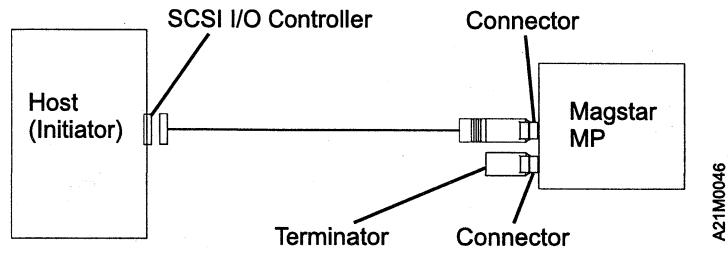
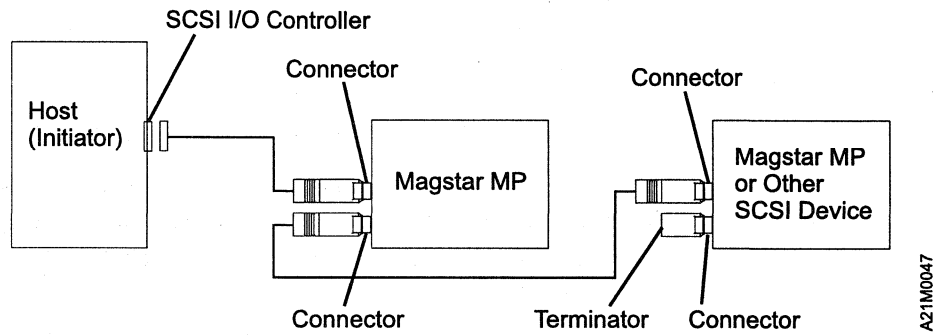
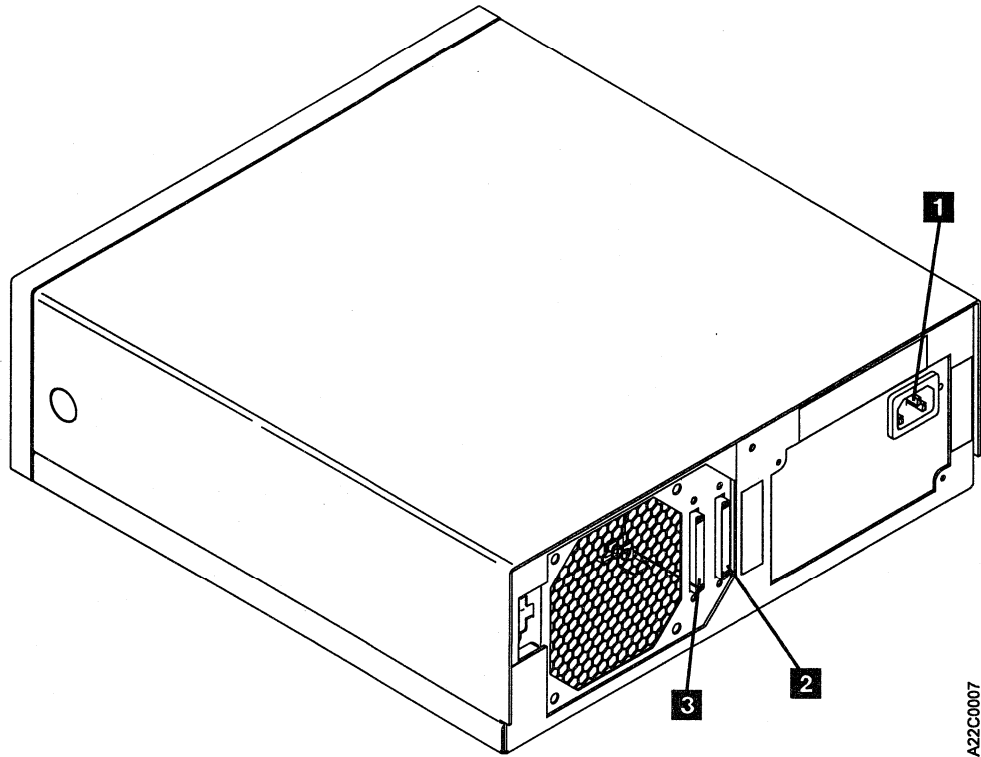

Figure 18. Example of Attaching One SCSI Device to the Host (Initiator)
Figure 19. Example of Attaching Multiple SCSI Devices to the Host
Figure 20. Rear View of Model C00
- 2. If the Magstar MP is the first or only SCSI device connected in line to the initiator, connect the SCSI interface cable coming from the initiator to the leftmost SCSI connector on the back of Model C00 (see Figure 18 and **3** in Figure 20).
- 3. If the Magstar MP is not the first device on the SCSI bus, connect the SCSI interface cable coming from the next closest device to the leftmost SCSI connector on the back of Model C00 (see Figure 19 and **3** in Figure 20).
- 4. If this is the last device on this SCSI bus, locate the SCSI interface terminator (P/N 61G8342) and attach it to the rightmost SCSI connector on the back of Model C00 (see Figure 18, Figure 19, and **2** in Figure 20).
- 5. If Model C00 is not the last device on this SCSI bus, locate the SCSI interface cable to the next device and connect it to the unused, rightmost SCSI interface connector on the back of Model C00 (see Figure 19 and **2** in Figure 20).
Figure 18 shows an example of a single Magstar MP attached to the host (initiator) and Figure 19 shows an example of attaching multiple SCSI devices to the host.
Figure 20 shows the SCSI connectors for Model C00.